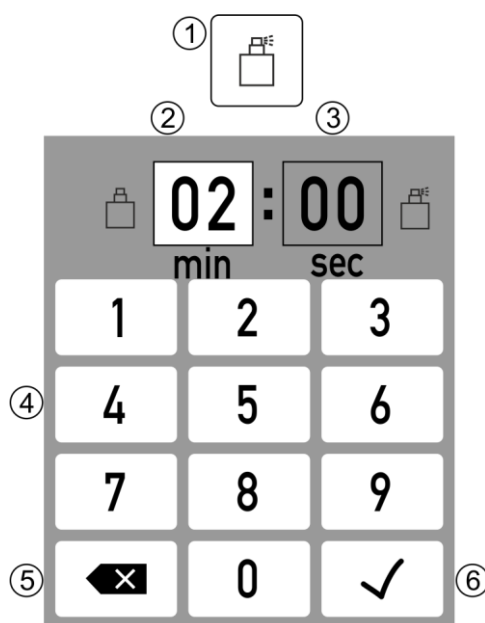

Fig. 4: Menu for aroma settings
1. Touch one of the time fields 2/3 (refer to fig. 4) to activate.
2. Enter the preferred time in the number field (4) and using the backspace key (5).
3. The value is saved once you press the enter key (6).
Press and hold the menu symbol for the aroma pump (refer to fig. 4) to manually activate the aroma pump for the duration of your keypress.